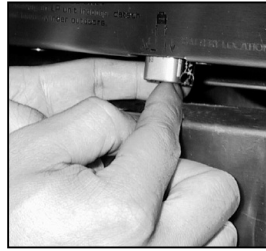

Fig. 60
3. Re-install upward and push to snap in - Fig. 60.